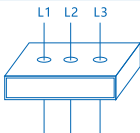
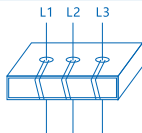

Figure 6 One Feedthru for 3A or above
Figure 7 Multiple Feedthrus for 3A or below
- 1) The three main circuits from the AC contactor to the motor are respectively connected with the motor through the wire hole of the integrated motor controller. When the rated current of the motor is less than 3A, the three-phase main circuit needs to pass the hole for many times. See Table 3 for the number of windings. The product of the minimum signal current passing through the center hole of the integrated motor controller and the number of windings should be greater than 3A. See Figure 6 and Figure 7 for the feedthru diagram of the